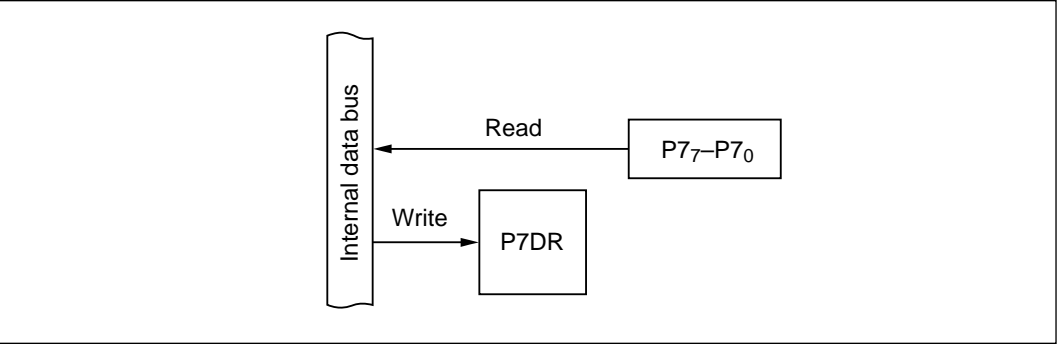

Figure 10-45 Input Port (Modes 1 to 7)
(1) Input Port (Modes 1 to 7): Figure 10-45 shows a block diagram illustrating the general-purpose input function. Table 10-36 indicates register read/write data. Values written in the port 7 data register (P7DR) have no effect on general-purpose input lines. When read, P7DR returns the value at the pin.